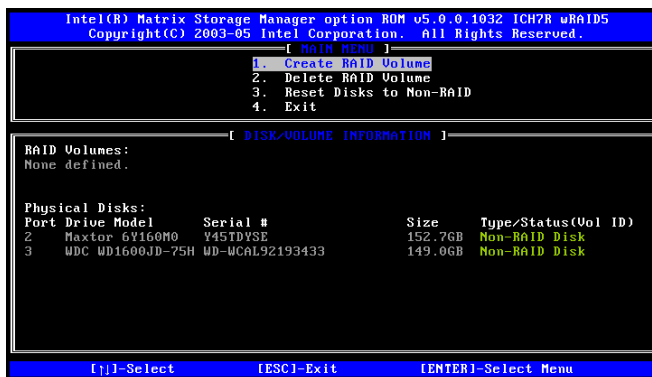

Figure E-1: Matrix Storage Manager Main Menu
Step 1: Select "Create RAID Volume." Use the arrow keys to highlight **Create RAID Volume** and press **ENTER**. See Figure E-1.